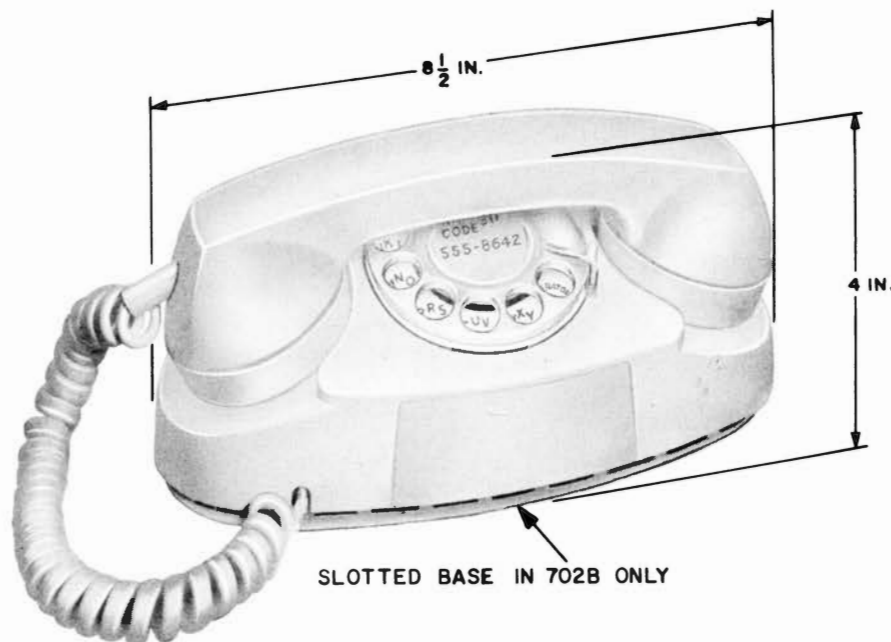

Fig. 1 - 701B and 702B Telephone Set
2.03 The 701B or the 702B telephone set (Fig. 1) is furnished wired for individual and 2-party flat-rate service.